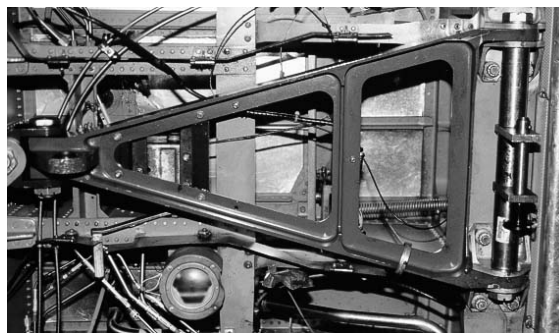
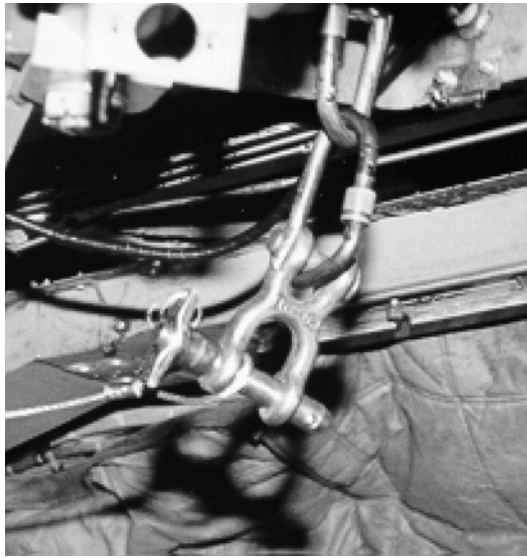

Figure 5-16. A-Frame Fast Rope Attachment Bar Attached
Figure 5-17. Cleves Connector with Quick Release Pin
g. To attach the rope, secure the 3" ring of the fast rope to the 1" quick release pin of the A-frame fast rope attachment bar assembly (Figure 5-16). Attach a double clevis assembly to either hard point directly aft of the primary attachment point. Connect the safety cable of the fast rope to the quick release pin of the double clevis assembly (Figure 5-17).